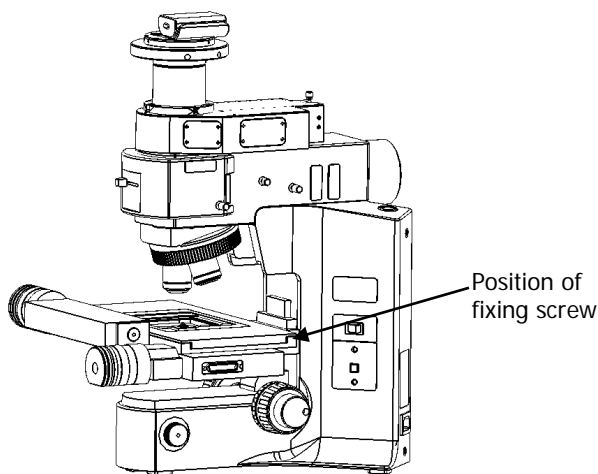

Figure 31 Adjusting the height of the motorized stage
4. Using an allen key, loosen the hexagonal fixing screw on the side of the microscope (Figure 31).